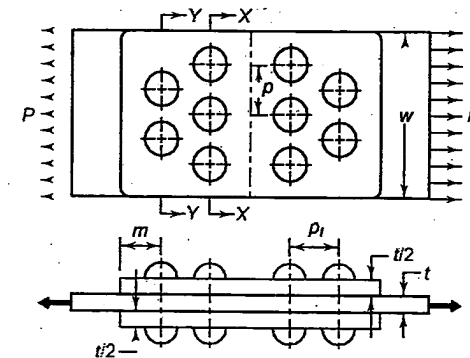

Fig. 2
- b) Two flat plates subjected to a tensile force P are connected together by means of double-strap butt joint as shown in Fig. 2. The force P is 250 kN and the width of the plate w is 200 mm. The rivets and plates are made of the same steel and the permissible stresses in tension, compression and shear are 70, 100 and 60 N/mm^2 respectively. Calculate: (i) the diameter of the rivets; (ii) the thickness of the plates; (iii) the dimensions of the seam, viz., p , p_t and m ; and (iv) the efficiency of the joint.